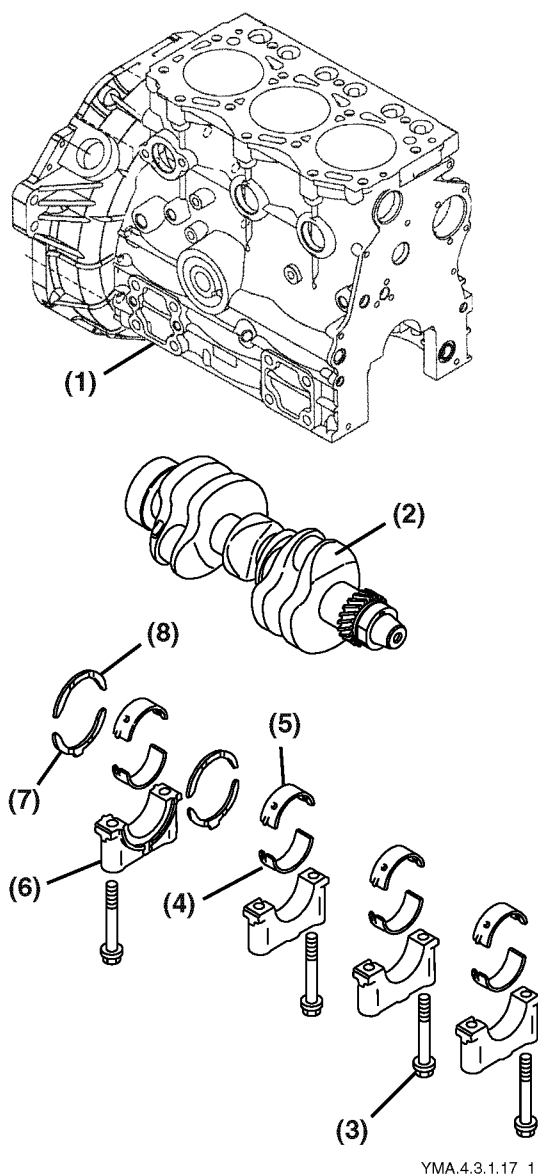

Figure 5-75
The crankshaft gear is pressed onto the crankshaft (**Figure 5-75, (2)**).
2. Coat the inside diameter of the upper main bearing inserts (**Figure 5-75, (5)**) with oil.
3. Install the upper main bearing inserts onto the cylinder block (**Figure 5-75, (1)**).
4. Install the thrust bearings (**Figure 5-75, (7) and (8)**) with the oil grooves facing outward toward the crankshaft. Avoid dropping the thrust bearing during installation.